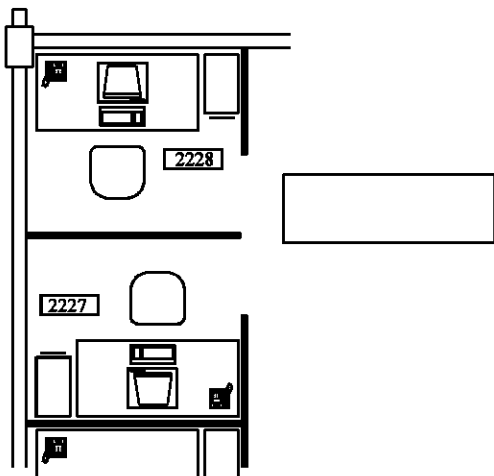

Fig. 3: Showing the table along with the drawing
- First corner: Specify the point (1) at coordinates 114,390.
- Other corner: Specify the point (2) at coordinates 174,360.
- The drawing looks like that shown in Fig. 3 with the rectangle as the table.